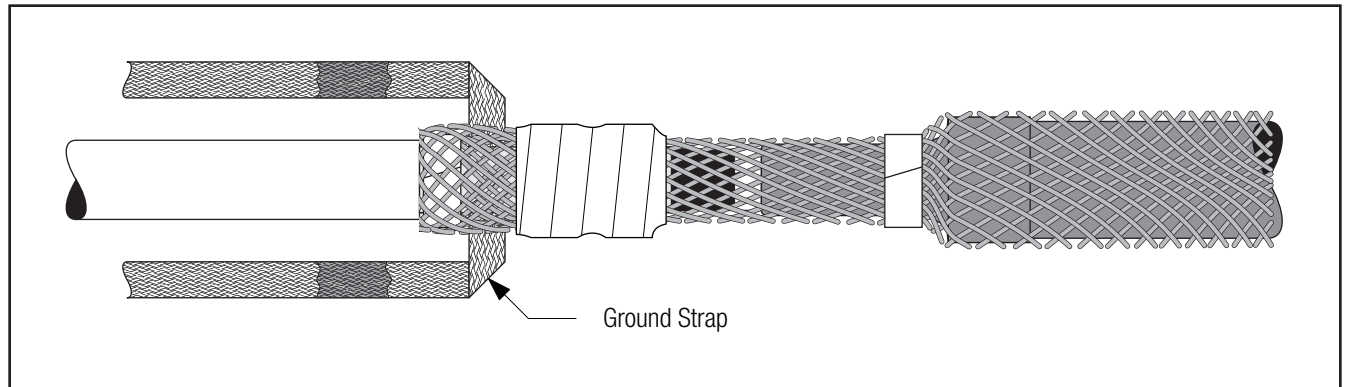

Figure 36
- 7.1 On metallic shielded (non-neutral) cable, wrap the ground strap around the shield sleeve (between the cable jacket and constant force spring) with the tails towards the cable jacket (*Figure 36*).